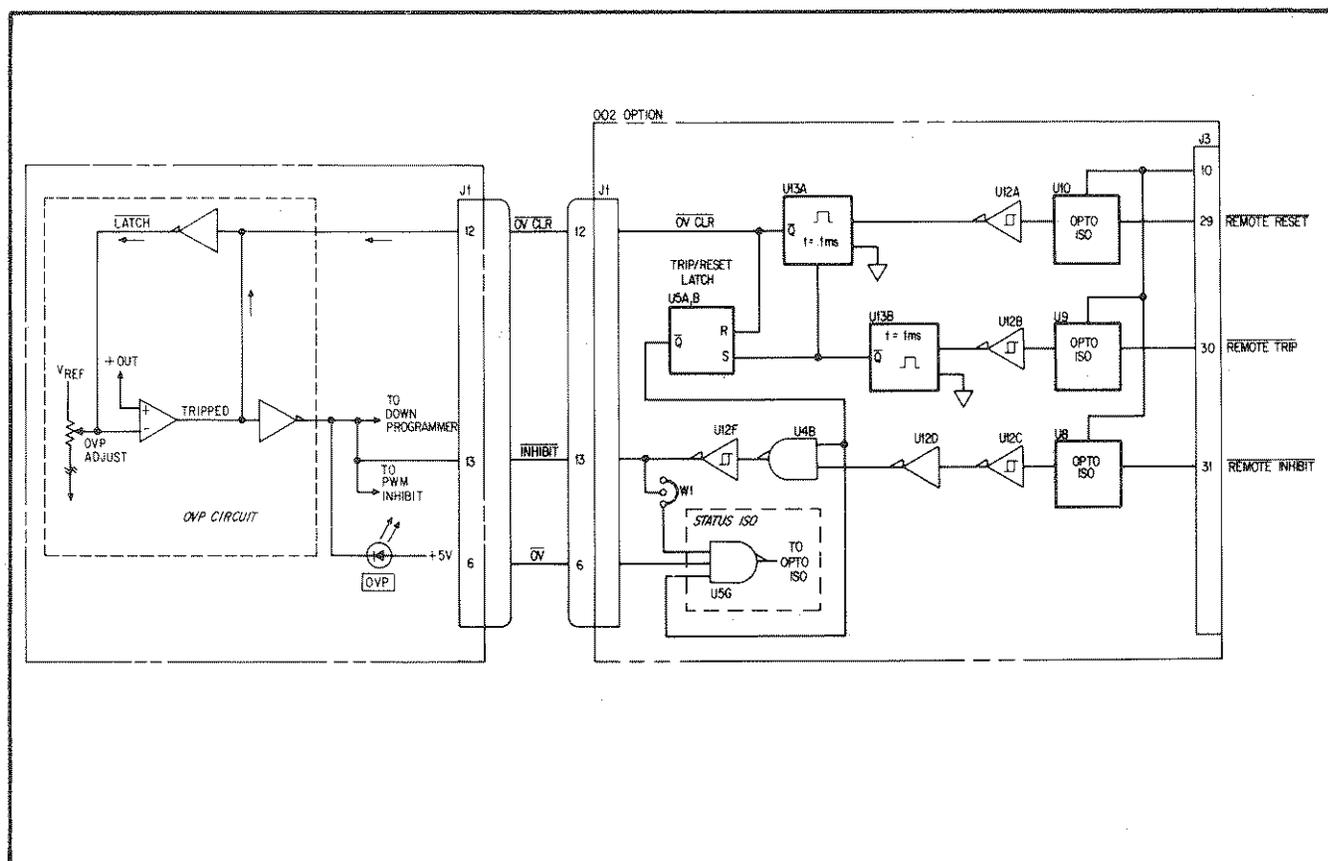

Figure A-8. Remote Control
to REMOTE RESET, see Table A-1. The following paragraph provides a brief circuit description (see schematic diagram and Figure A-8).
A-45 **Remote Reset.** A negative-going edge applied to terminal J3-29 (REMOTE RESET) will return the supply to its initial state following a system-initiated shutdown or an OVP shutdown caused by a temporary over voltage condition. For minimum pulse duration and timing considerations with respect to REMOTE TRIP see Table A-1 under Remote Control. The following paragraphs provide a brief discription of this circuit (see schematic diagram and Figure A-8).
**A-48 Alternate Method of Remote Control.** The REMOTE INHIBIT input, J3-31, provides an alternate method of remote shutdown. By maintaining a low logic level at this input, the supply's output will be inhibited until REMOTE INHIBIT is returned to its initial high state. The following paragraph provides a brief description of this circuit (see schematic diagram and Figure A-8).
**A-49** A low logic level applied to terminal J3-31 (REMOTE (INHIBIT)) is coupled through opto-isolator U8 and causes U4B to inhibit the power supply's (PWM) Pulse Width Modulator. If jumper W1 is used (see Figure A-8) while a REMOTE INHIBIT signal is applied, an OVERVOLTAGE signal will appear at terminal J3-17 OVERVOLTAGE thus, indicating the power supply shut down.